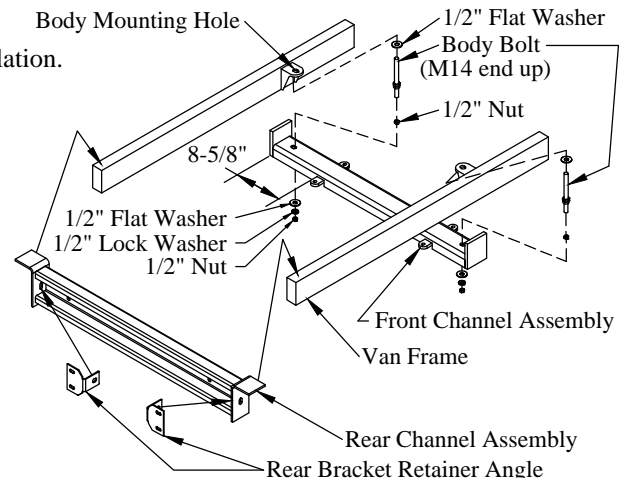

Figure 8: Channel assemblies location.
- 5. Install** the rear channel assembly on the rear of the van frame (Figure 8). The channel must go in diagonally, and then be pulled rearward. The channel will rest on top of the van frame, bolts will be installed later.
- 6. Install** the rear bracket retainers on the rear channel assembly (Figure 8). Use a supplied 1/2" x 1-1/4" bolt, two (2) flat washers, lock washer, and nut. Do not tighten.
- 8. Replace** each factory body bolt with a supplied body bolt and 1/2" flat washer (Figure 8). The M14 end threads into the body.
- 9. Install** the front channel assembly on the body bolts just installed on the van frame. The 8-5/8" dimension goes to the driver side (Figure 8). Use the supplied 1/2" flat washers, lock washers, and nuts.